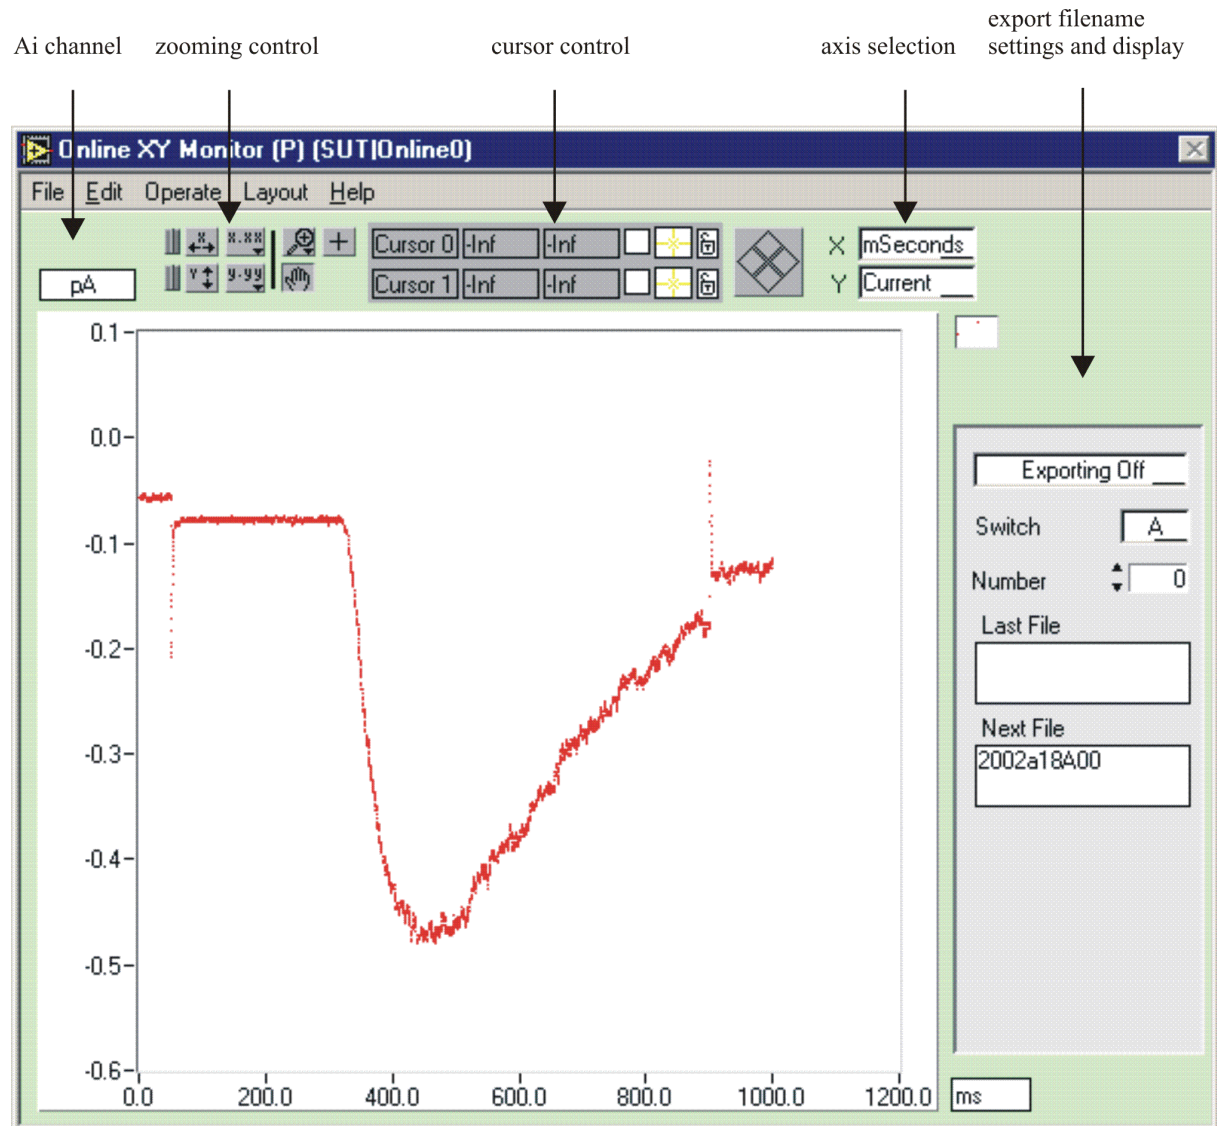

Figure 27: the Online XY Monitor (P)
If the user has selected “Online XY Monitor (P)” in the “user module” a click to the “Online” button in the CW Manager opens the “Online XY Monitor (P)” window (Figure 27). The window looks similar to the “Pulse Monitor” and several functions and menu commands are the same. On the top of the window the user finds elements for zooming and cursor control (as in the “Pulse Monitor”, see chapter 5.8) and on the right settings for export (as in “Online Sweep Analysis (P)” (see above).
The big difference from the “Pulse Monitor” is that the user can select for both axis an analog input channel by clicking to the pull down menu top left (Figure 27).